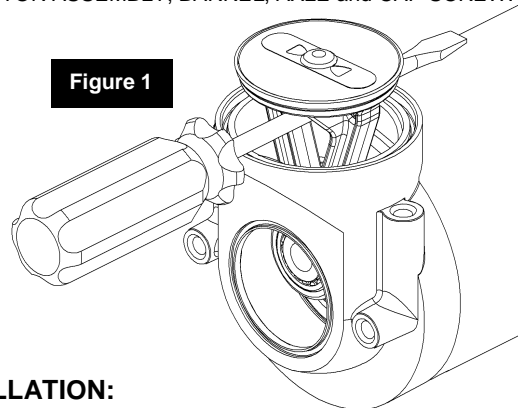

Figure 1
1. Remove compressor air filter cover (01), air filter (02) and hex head screws (03).
2. Remove the air filter base (04) and pay particular attention to the exhaust valve assembly (09-11), as these components are now loose. If this assembly falls out, refer to diagram opposite for reinstallation.
3. Remove cylinder head bolts (05) and carefully remove cylinder head (06) and the head O-ring (07). Discard the old O-ring.
4. Remove crankcase cover plate (12) and the cap screw (13) securing the piston and conrod assembly (14) to counterweight (15). Check between the piston/conrod assembly and the counterweight for a washer. If this washer is present, it must also be used in the rebuild.
5. Remove the barrel (08), piston and conrod as an assembly and discard.
6. Clean the cap screw (13) threads and apply Loctite 272 as per tube instructions.
10. Measure the deck height (see Fig. 1) with a depth micrometer, to ensure the distance of the piston crown to the top of the barrel is within specification. Deck height 0.5mm $+0.2/-0.0$ [0.020" $+0.008/-0.000$].
1. Unscrew the air filter assembly. Remove air filter flange bolts (13), air filter flange (12) and O-ring (14).
2. Remove head bolts (01) and head assembly (02). On CKMA models the bolts securing the manifold support bracket will also need to be removed.
3. Remove the BARREL (08). Place a screwdriver under the head of the piston as shown in Fig.1. This will stop the piston from moving through a full stroke.
4. Heat the CAP SCREW (11) using a micro torch to release the thread lock, unscrew it in an anti-clockwise direction, extract it along with the AXLE (10).
5. Lift the PISTON ASSEMBLY (09) from the compressor motor.